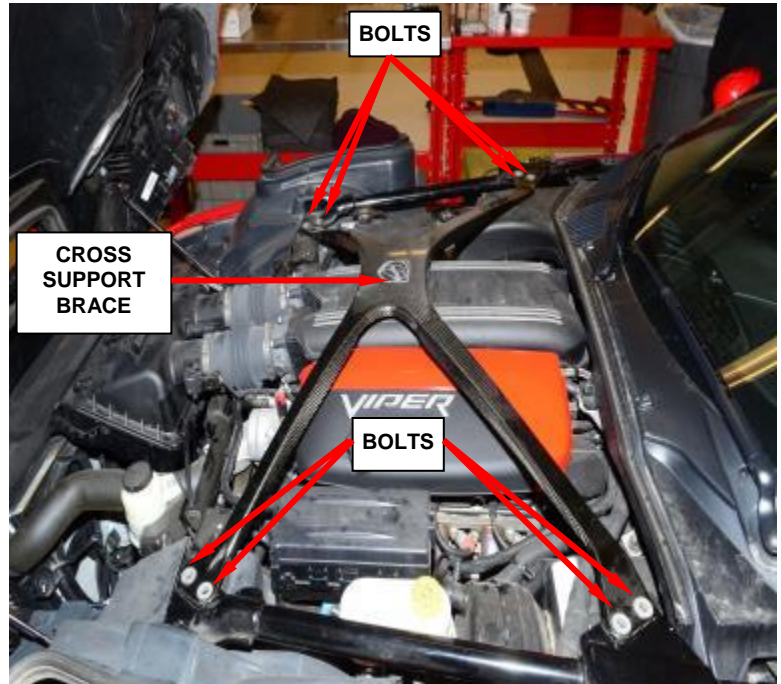

Figure 1 – Cross Brace
2. Remove the eight bolts that secure the cross support brace. Remove and save the cross brace (Figure 1).
22. Install the cross support brace and tighten the bolts to 15 ft. lbs. (20 N·m) (Figure 1).